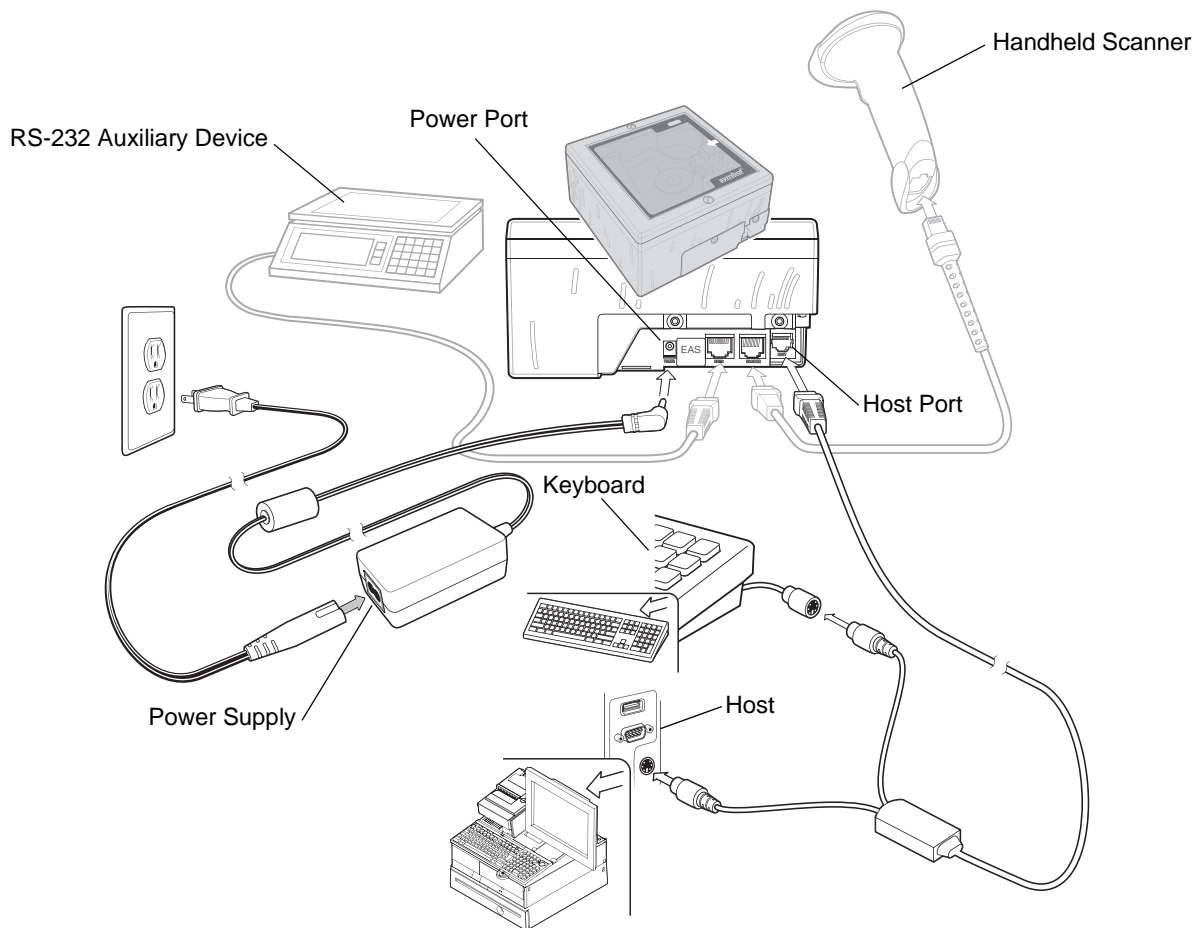

Figure 5-2 Keyboard Wedge Connection with Peripherals - Power Supplied Externally
5. Connect the peripherals, if any, to their respective ports (see Figure 5-2).